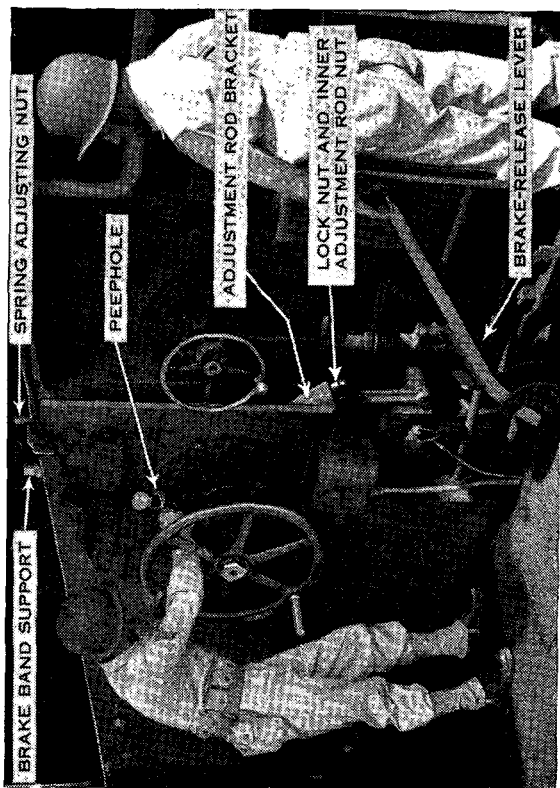
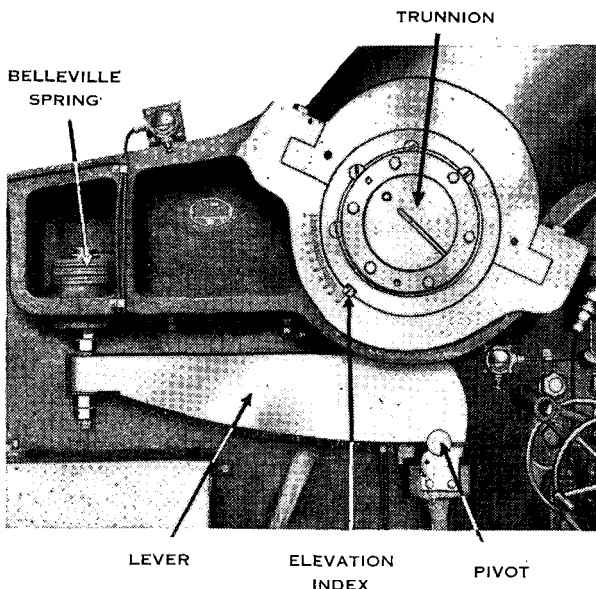

Figure 19. Checking the elevating brake clearance.
Figure 20. Anti-friction device.
42. ELEVATING BRAKE. a. An elevating brake (fig. 19), consisting of a brake drum and brake band, is located on each side frame of the gun carriage. Each brake is always set when the brake levers are down, and they must be released by lifting the brake-release lever before power is applied to the elevating mechanism. The brakes stop the gun at any angle of elevation, when the brake-release levers are down, and prevent rotation of the tipping parts during recoil.
(2) The clearance between the top of the brake drum and the brake band should be $1/32$ inch when the brakes are released. A peephole is provided on each side frame through which this clearance can be checked. To adjust the clearance, remove the cap from the adjusting screw on top of the frame just above the brake (fig. 19), slip out the cotter pin, and turn the spring adjusting nut until the proper clearance is obtained.
(3) Take up the wear on the brake band by loosening the lock nut on the brake band adjustment rod and tightening the inner adjustment rod nut, being sure not to tighten it too much and cause the brake band to drag on the brake drum when the brakes are released. When the adjustments are made, replace and tighten all nuts, caps, and cotter pins.
43. ANTIFRICTION DEVICE. a. The antifric-tion device (fig. 20) on the M1919, M1919M1, M2, M3, and M4 carriages is designed to reduce the effort required to elevate or depress the gun and to take the shock of recoil without damage to the mechanism. The weight of the tipping parts of the gun is supported by roller bearings except at the time when the gun is fired. At that time, the force of the gun in recoil compresses the Belleville springs of the mechanism, and the trunnions of the cradle seat themselves on the main trunnion bearings of the side frames. After the effect of the recoil has been absorbed, the antifric-tion mechanism returns the cradle to its original position where it again floats on the roller bearings.